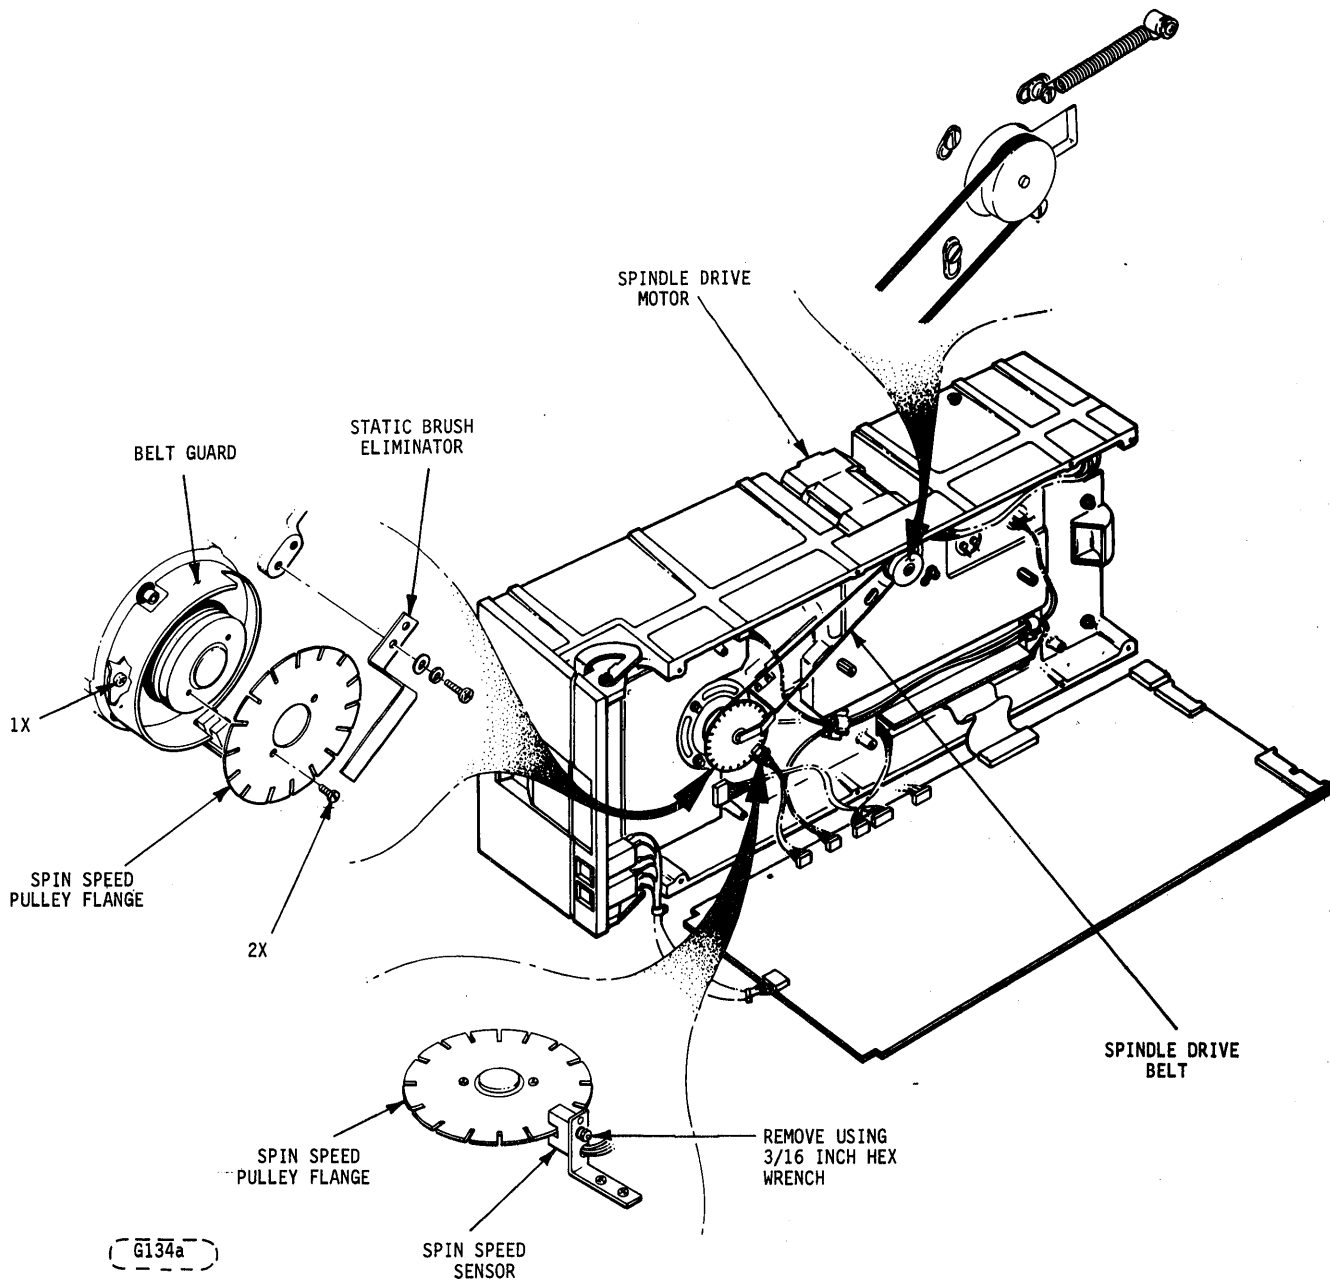

FIGURE 6-4. SUBASSEMBLY REMOVAL AND ADJUSTMENT
4. Remove two (2) screws that secure Spin Speed Pulley Flange to spindle pulley (refer to Figure 6-4).